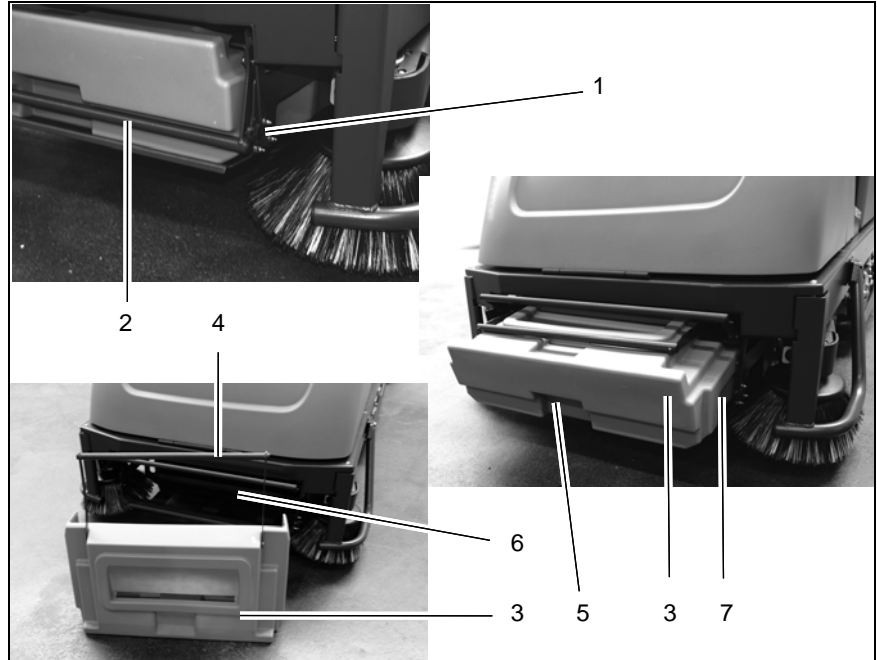

Fig. 37
1. Press the locking mechanism (Fig. 37/1) of the bar (Fig. 37/2) up and pivot the bracket upwards.
2. Take hold of the dirt hopper (Fig. 37/3) by the handle recess in one hand and pull it forwards out of the dirt hopper holder. While pulling the dirt hopper out, take hold of the dirt hopper handle with the other hand and pull the dirt hopper out completely with both hands.
3. Pivot the handle of the dirt hopper (Fig. 37/4) upwards and bring the dirt hopper to the waste disposal container.
Empty the content of the dirt hopper (Fig. 37/3) in a waste container at regular intervals.
1. Fold up the handle of the dirt hopper (Fig. 37/4).
2. Take hold of the dirt hopper with both hands by the handles at the sides (Fig. 37/7).
4. Pivot the bar (Fig. 37/2) downwards and secure in place with the locking mechanism.
If the dirt hopper (Fig. 37/3) is not properly engaged, the lamp (Fig. 22/3) lights up. The pre-sweep/vacuum unit does not work
The filter system of the dust vacuum (use category “U”) is located in the filter case above the dirt hopper (Fig. 37/2). The filter case is movable, the movement linked to that of the dirt hopper (Fig. 37/3) in order to be able to shake the filter element (panel air filter) when the agitating motor is switched on.
Clean the panel air filter (Fig. 37/2) in the dust vacuum regularly and as necessary using the agitating device: